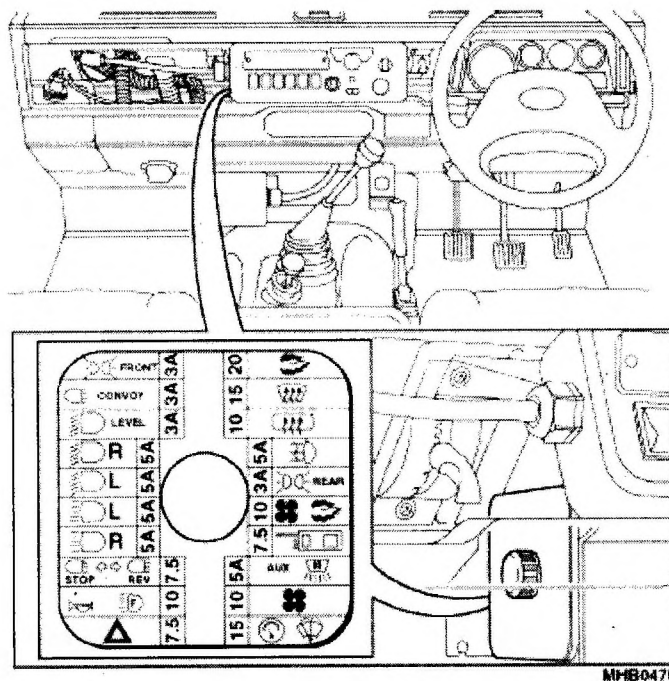

Fig 16 Main fuse box location
22 The main fuse box (Fig 16) is located inside the vehicle to the left of the instrument panel. It contains twenty fuses of the following values: 3; 5; 7.5; 10; 15 and 20 Amperes (A).